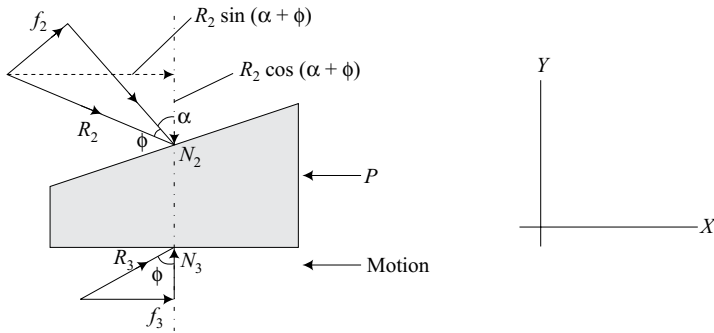

Fig. 2.17 FBD of wedge
- Draw free body diagram of wedge (Fig. 2.17). The reactions $N_2' = -N_2$ and frictional force f_2 will be equal to frictional force acting on block but in opposite direction. Reactions N_2' and N_3 will be acting normal to supporting surfaces.
2. Draw free body diagram of wedge (Fig. 2.17) and apply equilibrium conditions.